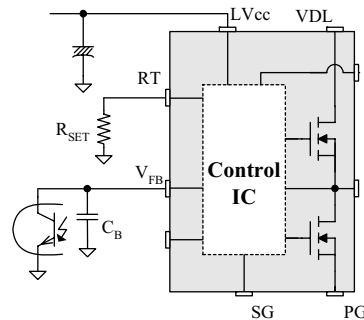

Figure 9. PWM Configuration
2.2. PWM control: Figure 9 shows the typical circuit configuration for PWM mode. The opto-coupler transistor should be connected to the V_{FB} pin to control the duty cycle while a resistor is connected to the R_T pin to fix the switching frequency.